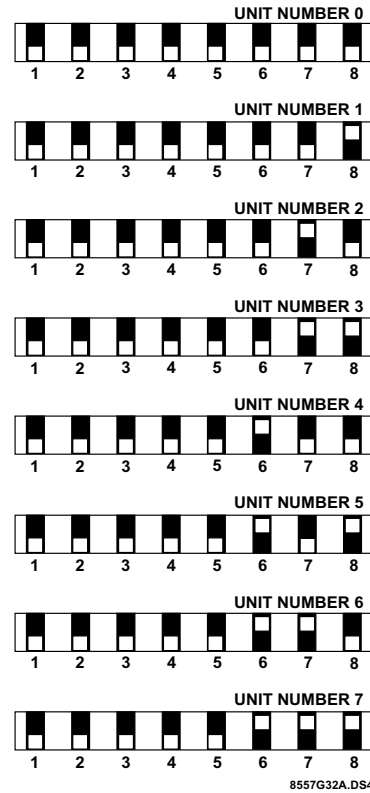

Figure 4 Setting the ESM, HIM, or HOM Unit Number Dip Switches
1. Set the module unit number DIP switches to the desired unit number as shown the figure 4 per the recommendations in table D.3 in appendix D. The unit number is set to 0 (zero) at the factory and is OK for most single touchpad and single ESM, HIM, *or* HOM module applications. Make sure that no bus devices (including hardware touchpads) share the same unit number (device address).